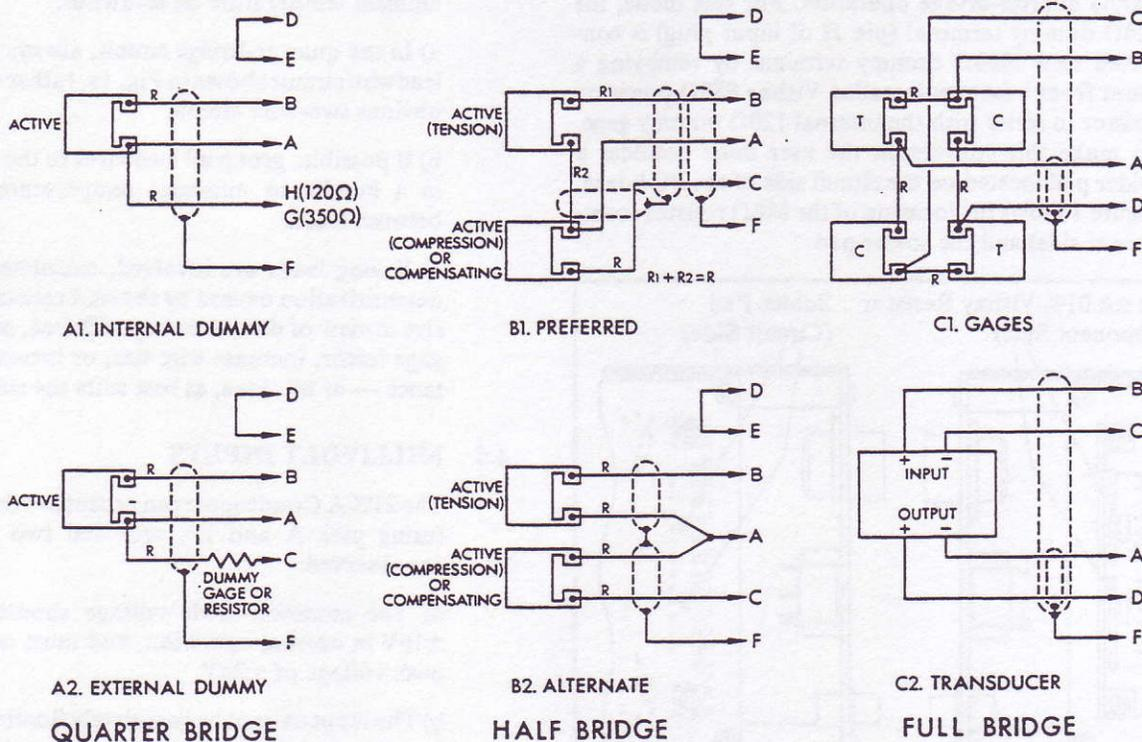

Fig. 1a: Input Circuits
4.3c Connect the input to each channel, using the connectors supplied, in accordance with Figs. 1a and 1b.
- a) In the quarter-bridge circuit, always use the three-leadwire circuit shown in Fig. 1a, rather than the more obvious two-wire circuit.